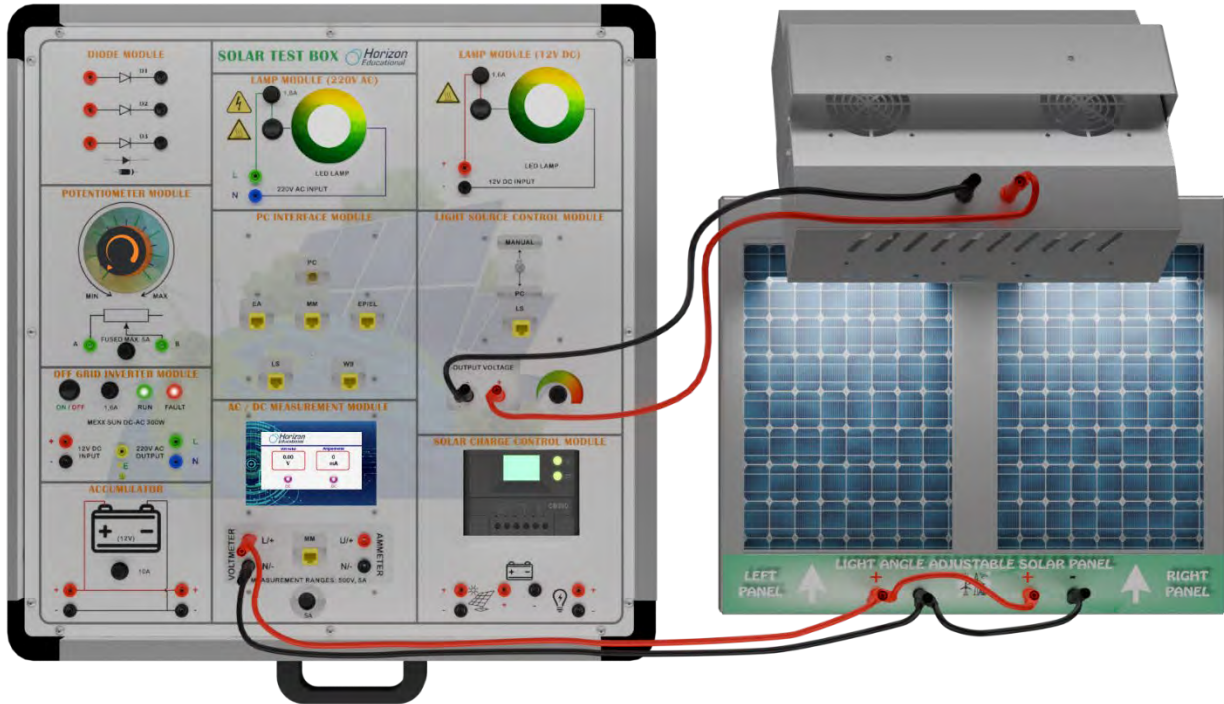

Figure-28. Installation Image of Examination of the Parallel Connection of Photovoltaic Panel
1. Set up the connection as specified in Figure-28. Ensure a constant level of light in the laboratory by creating an average scenario. Any alterations to the positions of the lamps or curtains will have an impact on the experimental outcomes.